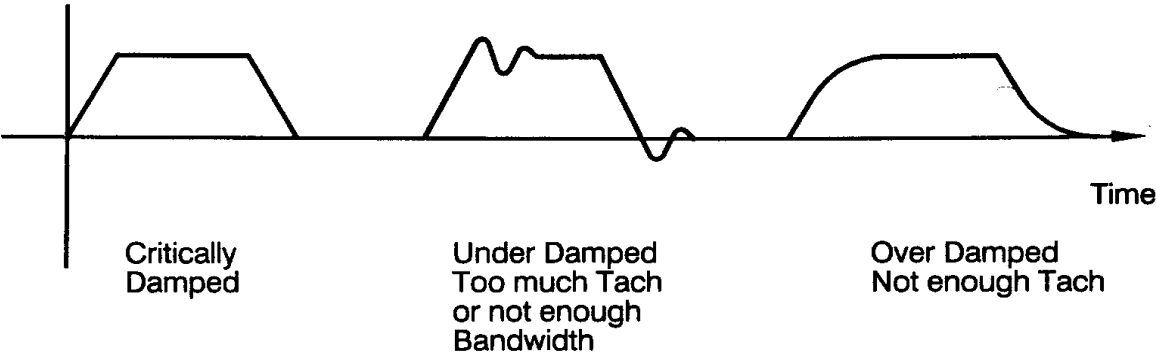

Figure 6.4
- 5. Observe the tachometer voltage with an oscilloscope while applying and removing the DC input signal. You will observe one of three possible waveforms: critically damped, under damped, or over damped (see figure 6.4).